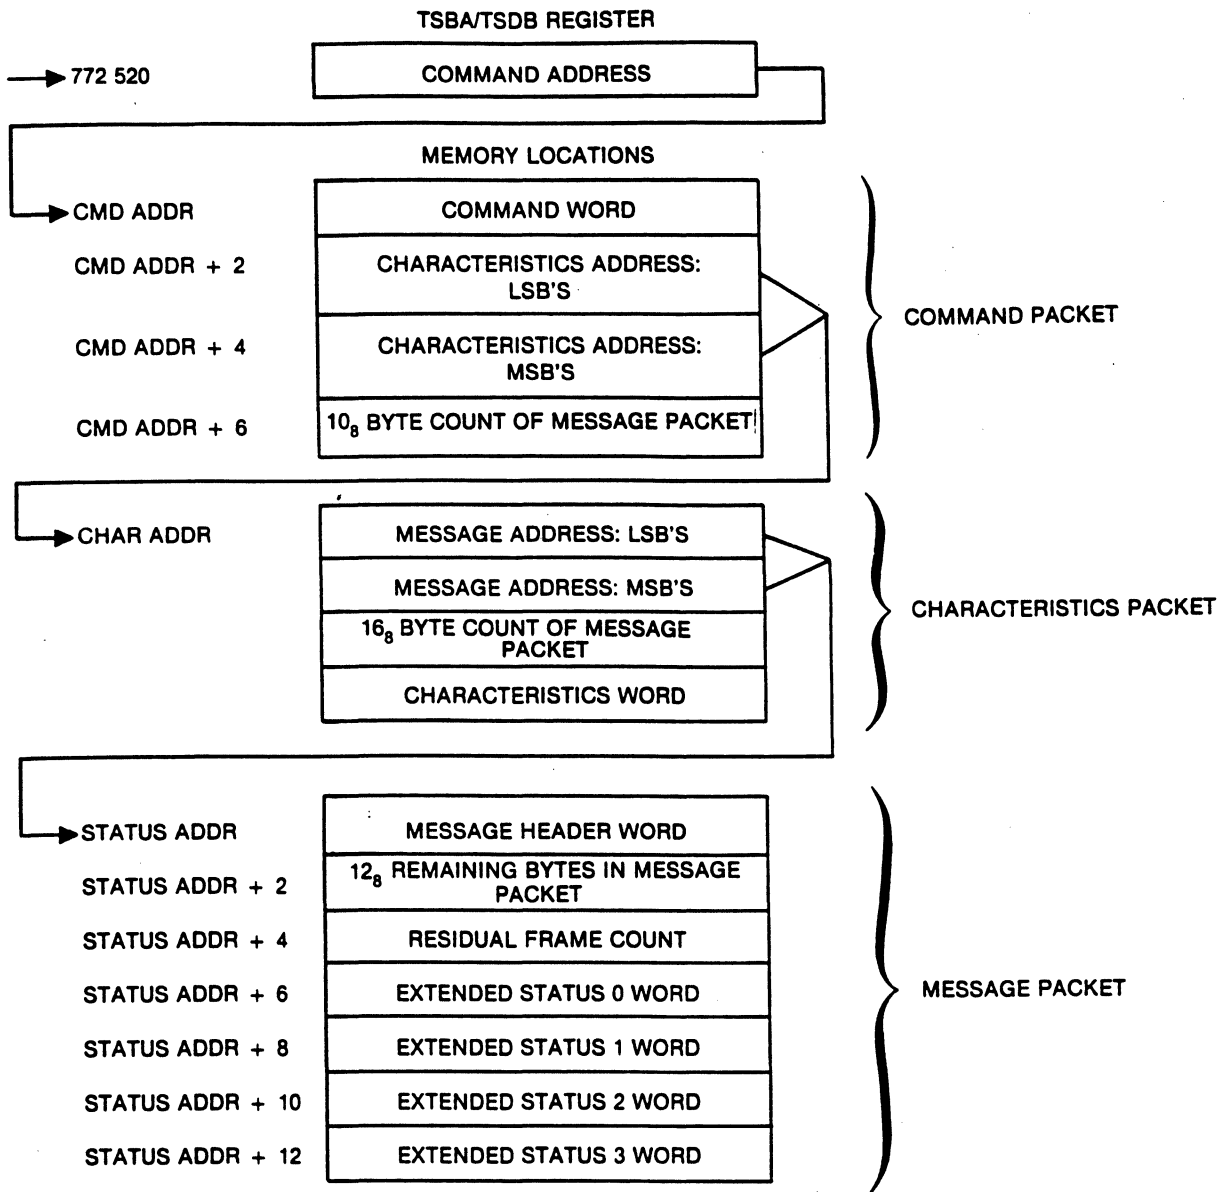

Figure 4-1. Typical Set Characteristics Command Sequence
3. The controller accesses the command packet, which is typically "set characteristics." Note that the set characteristics command packet comprises 3 to 5 successive memory locations (6-10 bytes) that contain (see Figure 4-1):